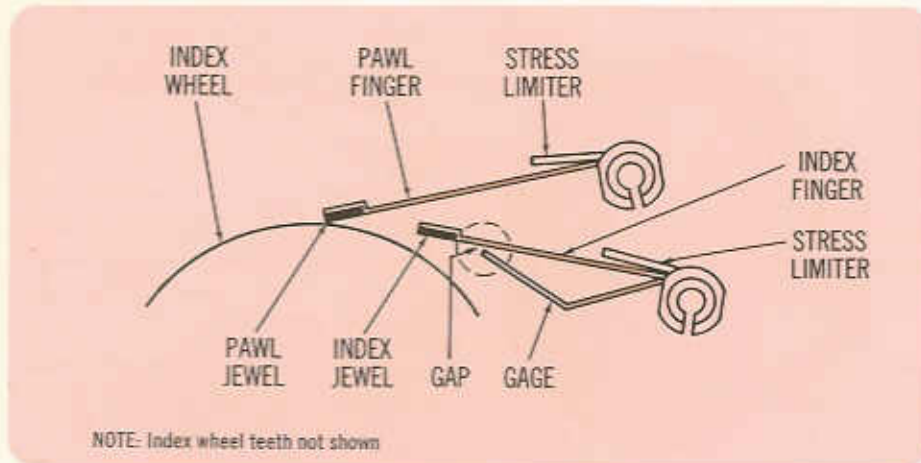

Fig. 18
3. Rotate index finger collet until index jewel completely disengages from index wheel. Observe gap between index gage and index finger. (See Fig. 18.) The gage must not touch the finger, but should preferably be very close, say within one index finger thickness. This, as you will see, will make it easier to perform step 4. If gap does not meet requirements, bend index gage at its attached end until the proper gap is obtained.